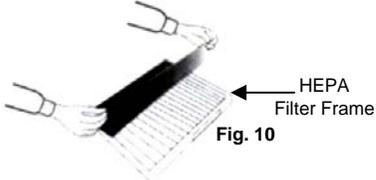

Fig. 10
5. To clean the pre-filter, pull the pre-filter up to remove it from the HEPA filter. (Fig. 10)